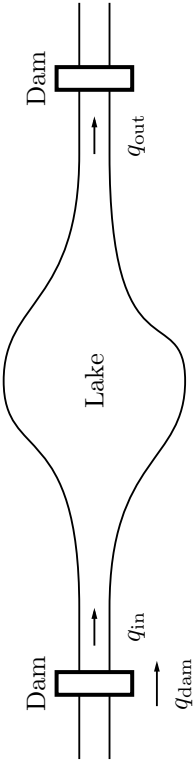

Figure 3.14a
3.14 We want to control the level in a lake by controlling the flow using flood gates, see Figure 3.14a. The relationship between changes in the level of the lake,  $h_\Delta$ , and changes in the flows,  $q_{in,\Delta}$  and  $q_{out,\Delta}$ , is given by